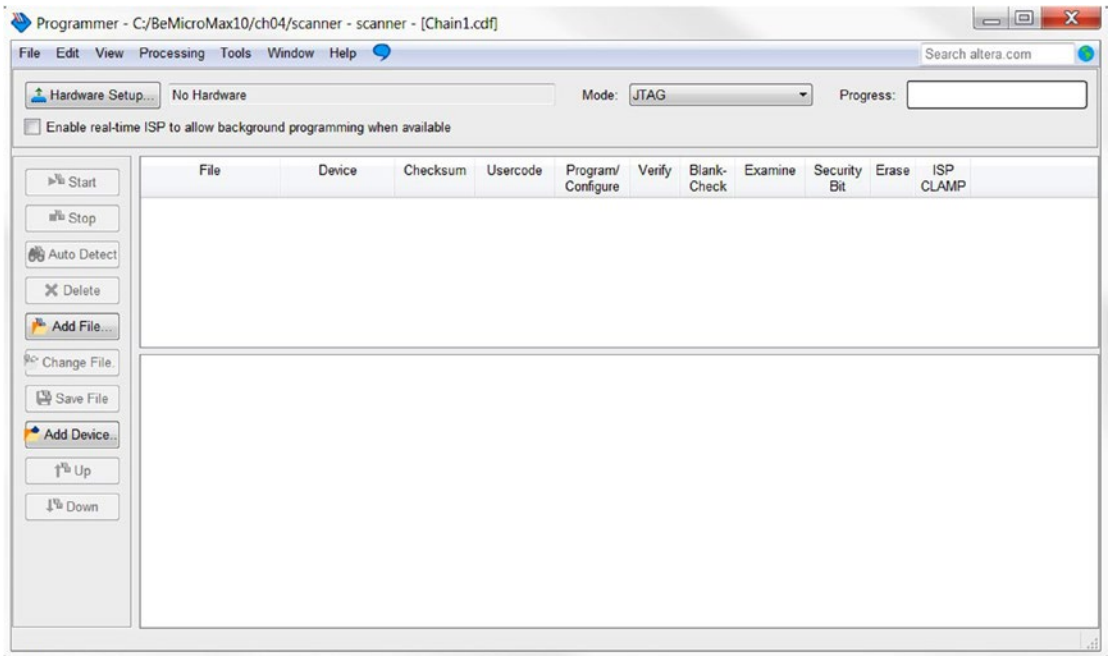
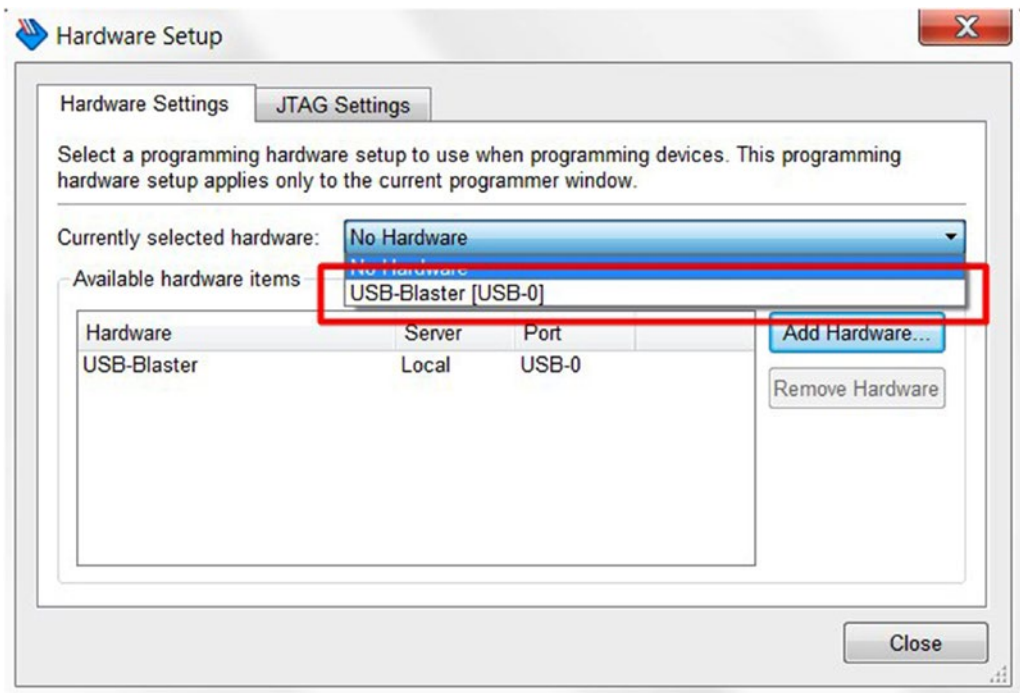

Figure 4-56. Programmer
Figure 4-57. Programmer—Hardware setup
2. Click the **Hardware Setup...** icon in the Programmer (Figure 4-56). In the Hardware Setup dialog select **USB-Blaster [USB-0]** and click **Close** (Figure 4-57).